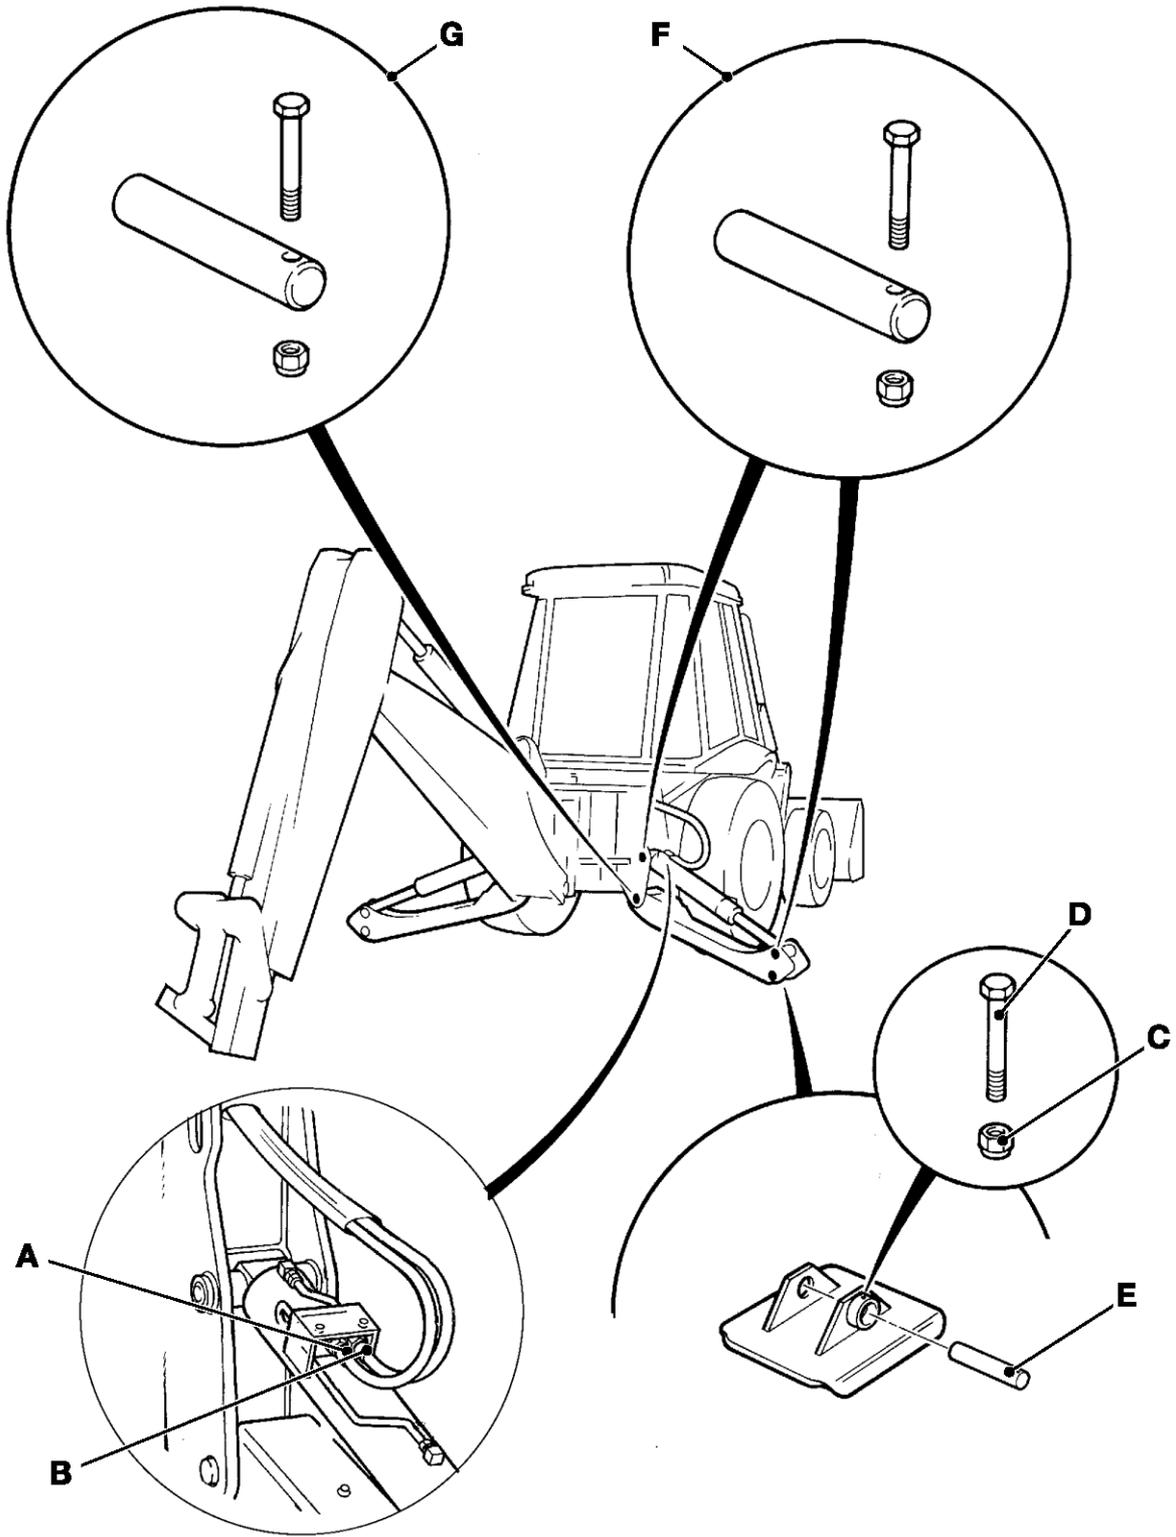

Fig 17. Centremount
- 4 Fig 17. (**B-103**). Remove the stabiliser ram: